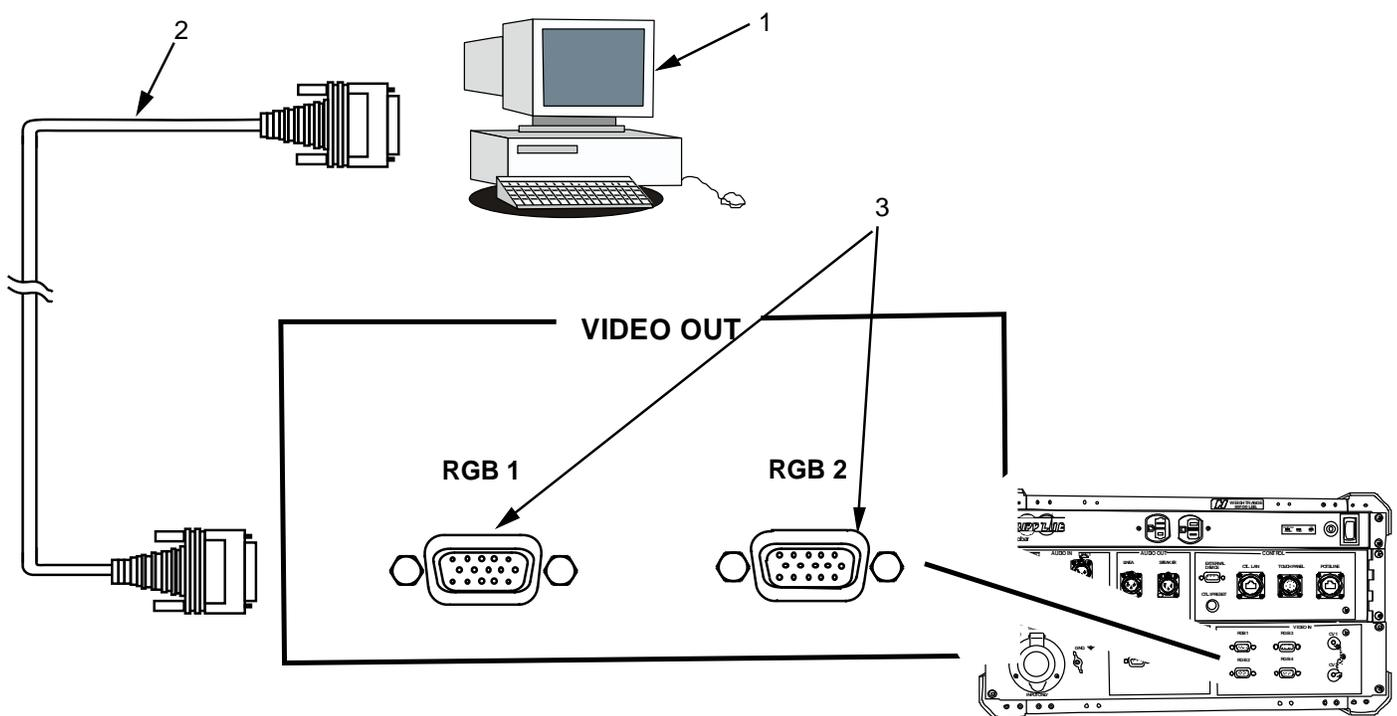

Figure 8. Connect Video Output Devices to AVCS (MINI) System.
1. Identify the RGBHV input device (Figure 8, Item 1) to be used and position in its desired location.
2. Connect the HD-15 cable (Figure 8, Item 2) to the video output on the RGBHV device.
4. Insert the cable connection into the RGB 1 or RGB 2 (Figure 8, Item 1) connector and tighten down the two screw locks to hold it in place.